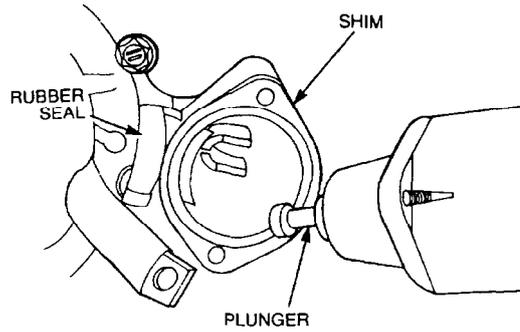

Figure 276 Removing the Solenoid
- f. Remove the screws securing the solenoid to the starter motor housing, remove the solenoid by disengaging the plunger from the clutch lever (Figure 276) and remove the shim.